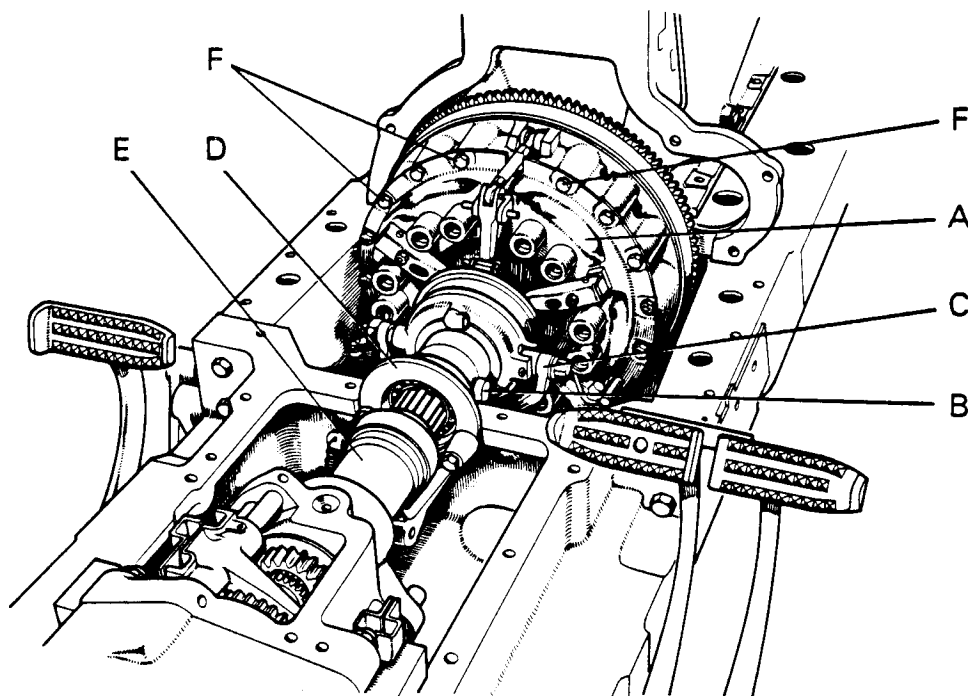

Figure 40. 1200 TRACTOR WITH CLUTCH HOUSING AND GEARBOX COVER REMOVED
8. Remove gearbox cover — five bolts into rear axle case, four bolts into clutch housing and 14 bolts into main frame (two of these are inside steering cavity). (Fig. 40.)